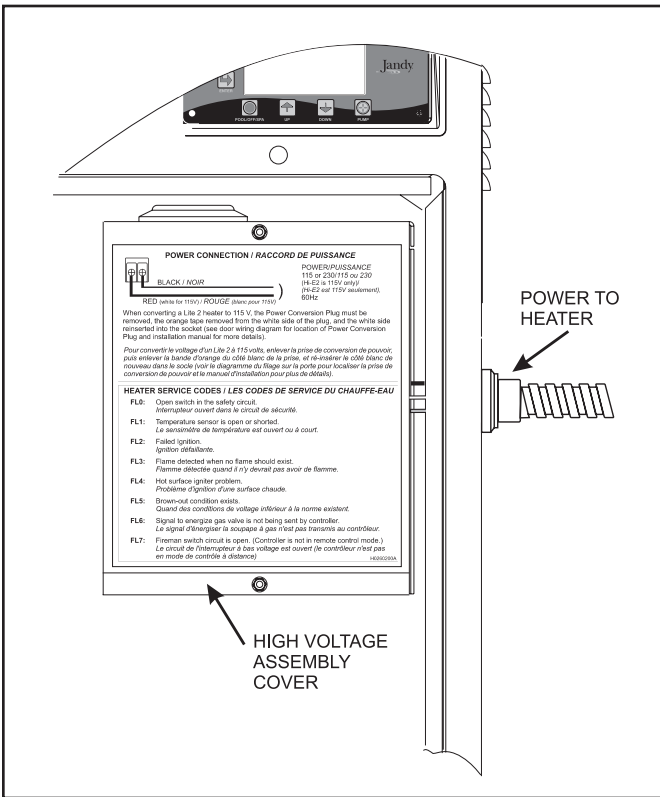

Figure 3. Remove the Cover of the High Voltage Assembly
3. Remove the cover from the high voltage assembly (see Figure 3).